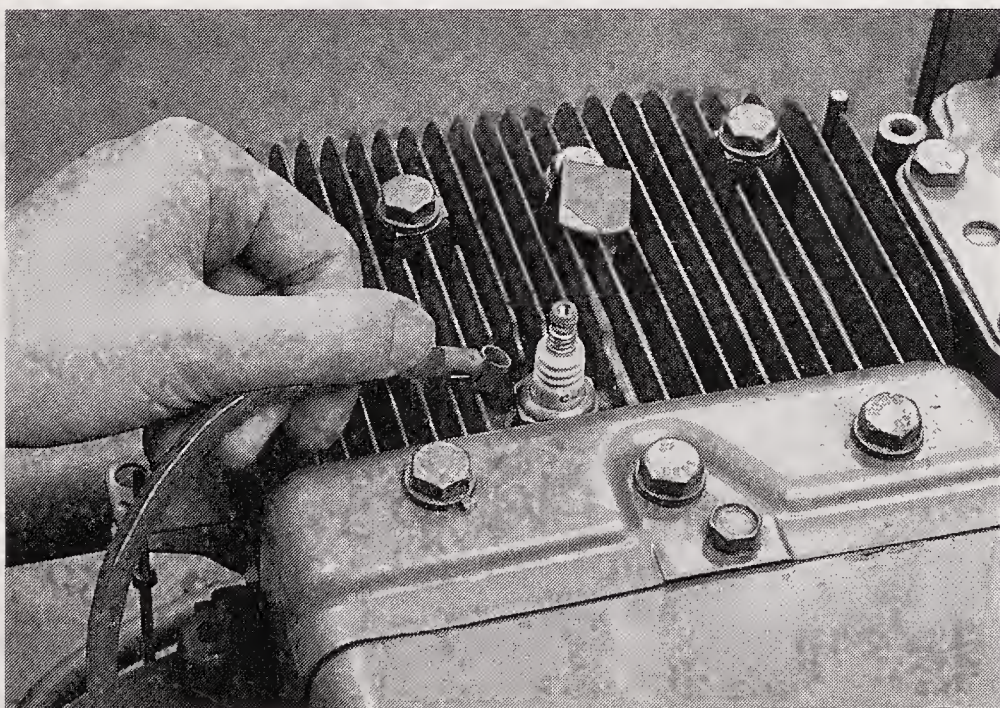

Figure 14-12. If no spark occurs at the plug tip or the plug base, the problem is in the magneto system.
5. If no spark occurs, hold the wire 3/16" from the base of the plug. See **Figure 14-12**. Pull the starter cord once more. If a spark occurs at base of the plug and not at the tip, the plug is failing under compression and should be replaced.